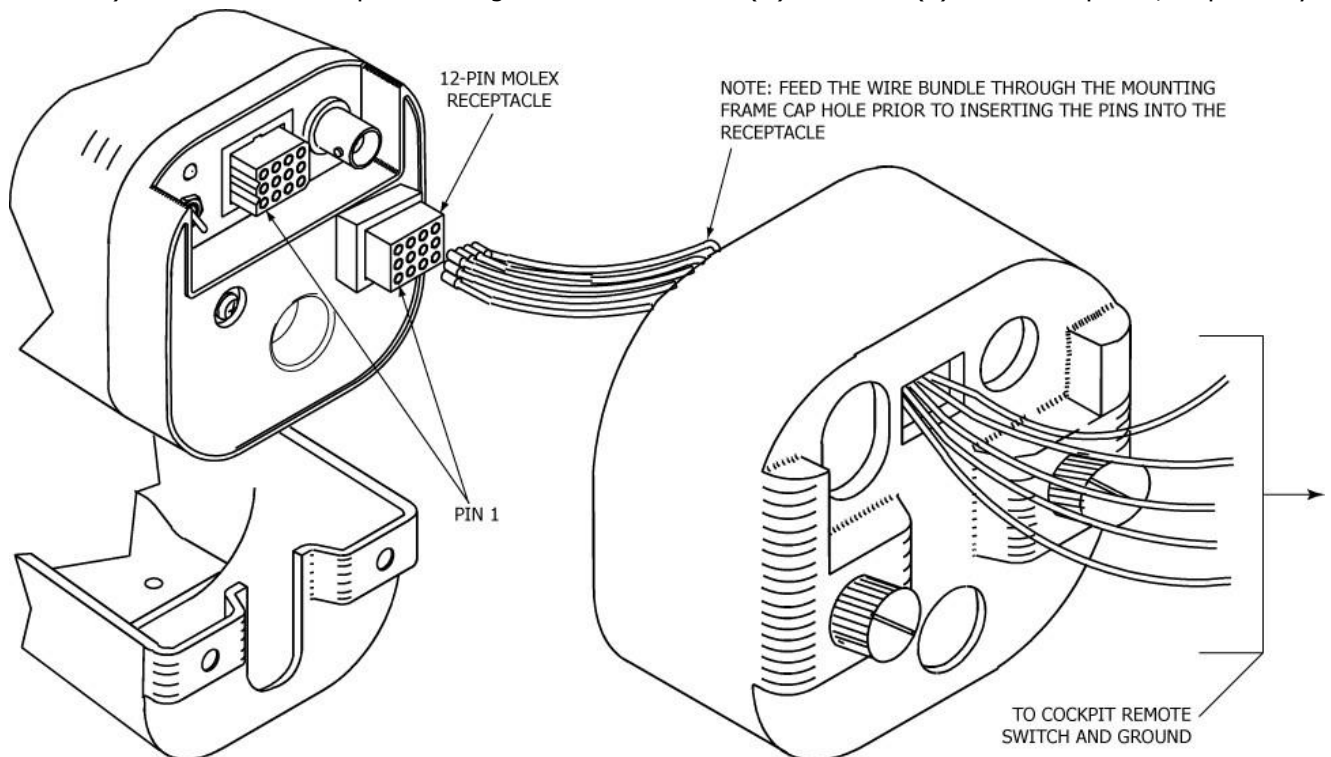

Figure 22 Remote Switch Harness Arrangement at ELT End
- 1) Feed the harness wires on the ELT end through the mounting frame cap assembly (452-5052). See Figure 22.